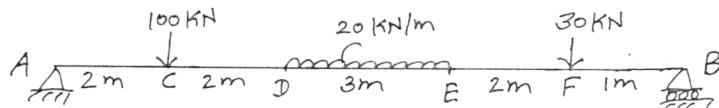

Fig. 3
- Q2) a)** A simply Supported beam of span 10m loaded as shown in fig.3. Find the Support Reactions, shear force at point D & bending moment at Point F. Draw ILD for support reactions, shear force & Bending Moment. [9]